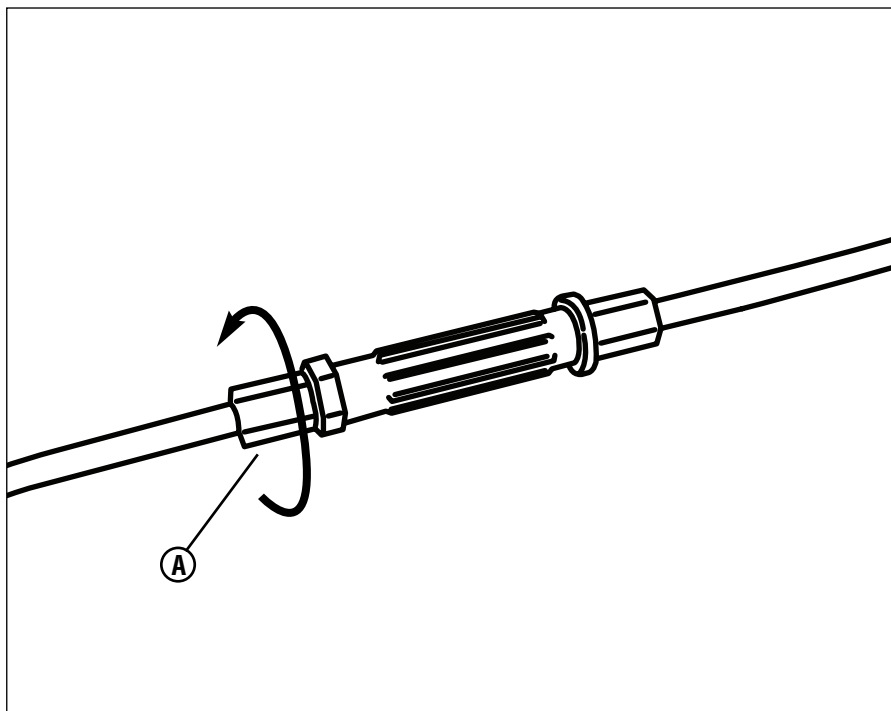

Figure 23: Adjusting the drive cable
1. If the drive system is slipping, turn the cable adjuster (**A, Figure 23**) in the direction shown. Test the drive system and check for slippage.